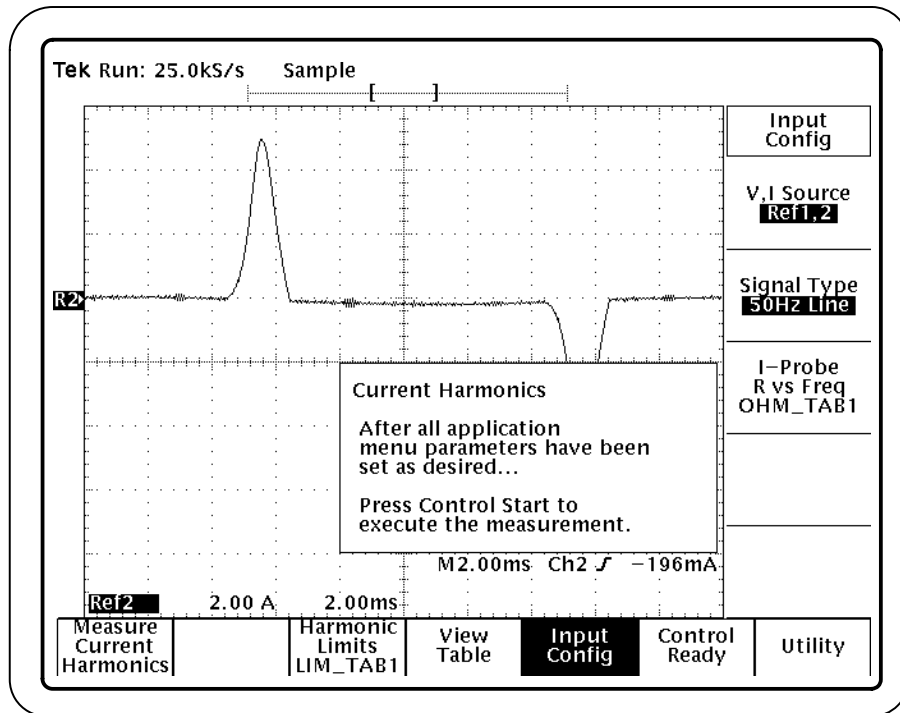

Figure 35: Current Harmonics Input Config menu
9. Press Input Config (main). You can configure the source of input data and the cycle frequency of the power line. Figure 35 shows the Input Config menu.